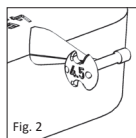

Fig. 2
■ **Fig. 1a, 1b/2** The sizer disk (Fig. 1a, 1b) for total prostheses has eight individual satellites shaped sizers of different lengths (3.0-7.0 mm). The relevant length is marked on the back of each sizer (Fig. 2). The cutouts and holes are designed to reduce the weight and to provide a clearer view when conducting measurements in the middle ear.